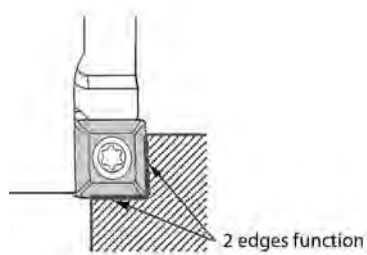

Fig.1
• When shouldering, both side edge and bottom edges are cutting. Both edges wear at the same time depending on ap. The insert uses 2 edges instead of 4. (Ref. to Fig.1)